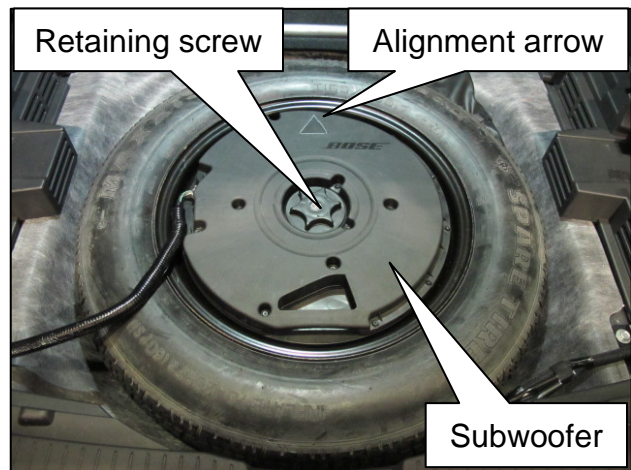

Figure 9
13. Use a drill with a ½” drill bit to drill two (2) holes through the sidewall of the removed spare tire and dispose of the spare tire properly following all local, state, and federal regulations.
14. Install the spare tire and wheel assembly into the rear luggage area (Figure 9).